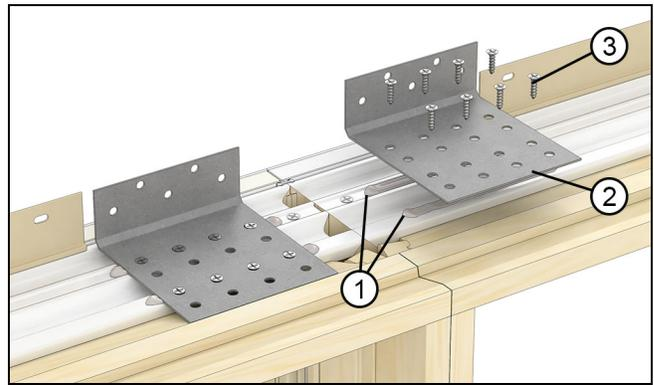

Figure 5
3. Apply two 5/16 x 4" (16x102) beads of construction adhesive on the frame where you will install the clips. Then attach the clip to the frame with eight #7x5/8" Phillips flat head screws. See Figure 5.